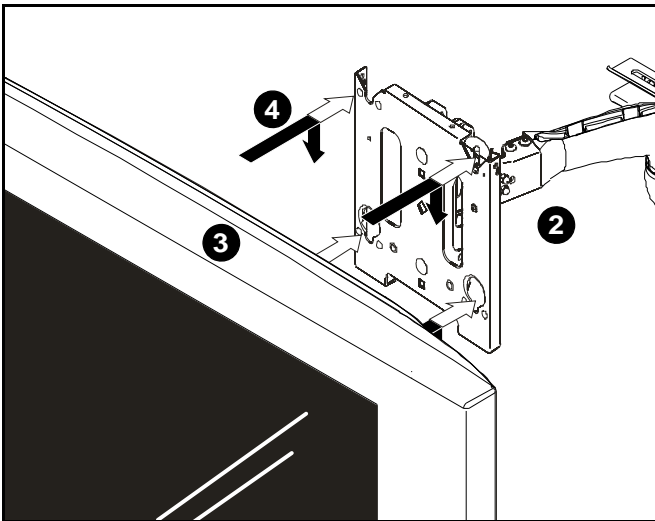
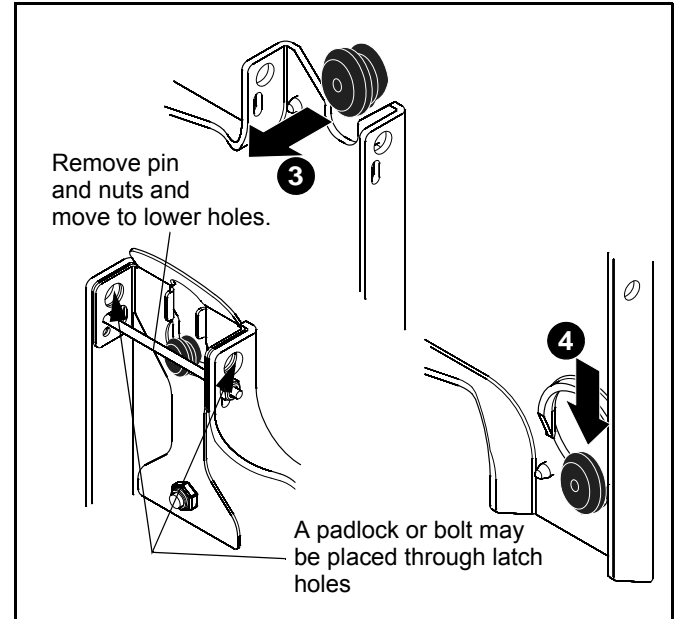

Figure 6
Figure 7
2. Move mount faceplate to extended position by grasping faceplate and pulling outward away from wall. (See Figure 6)
3. While supporting both sides of display, align four mounting buttons on display or interface bracket with four mounting holes in faceplate. (See Figure 6)
4. Lower display into place listening for audible "click" to ensure recessed area of mounting buttons are properly seated in lower area of mounting holes and "click lock" mechanism has engaged. (See Figure 6) and (See Figure 7)
**NOTE:** Holes are provided in the faceplate for use with a padlock or similar locking device, if desired. In addition, the pin and nut may be removed from the upper holes and moved to the lower holes for use as a more permanent locking device. (See Figure 7)